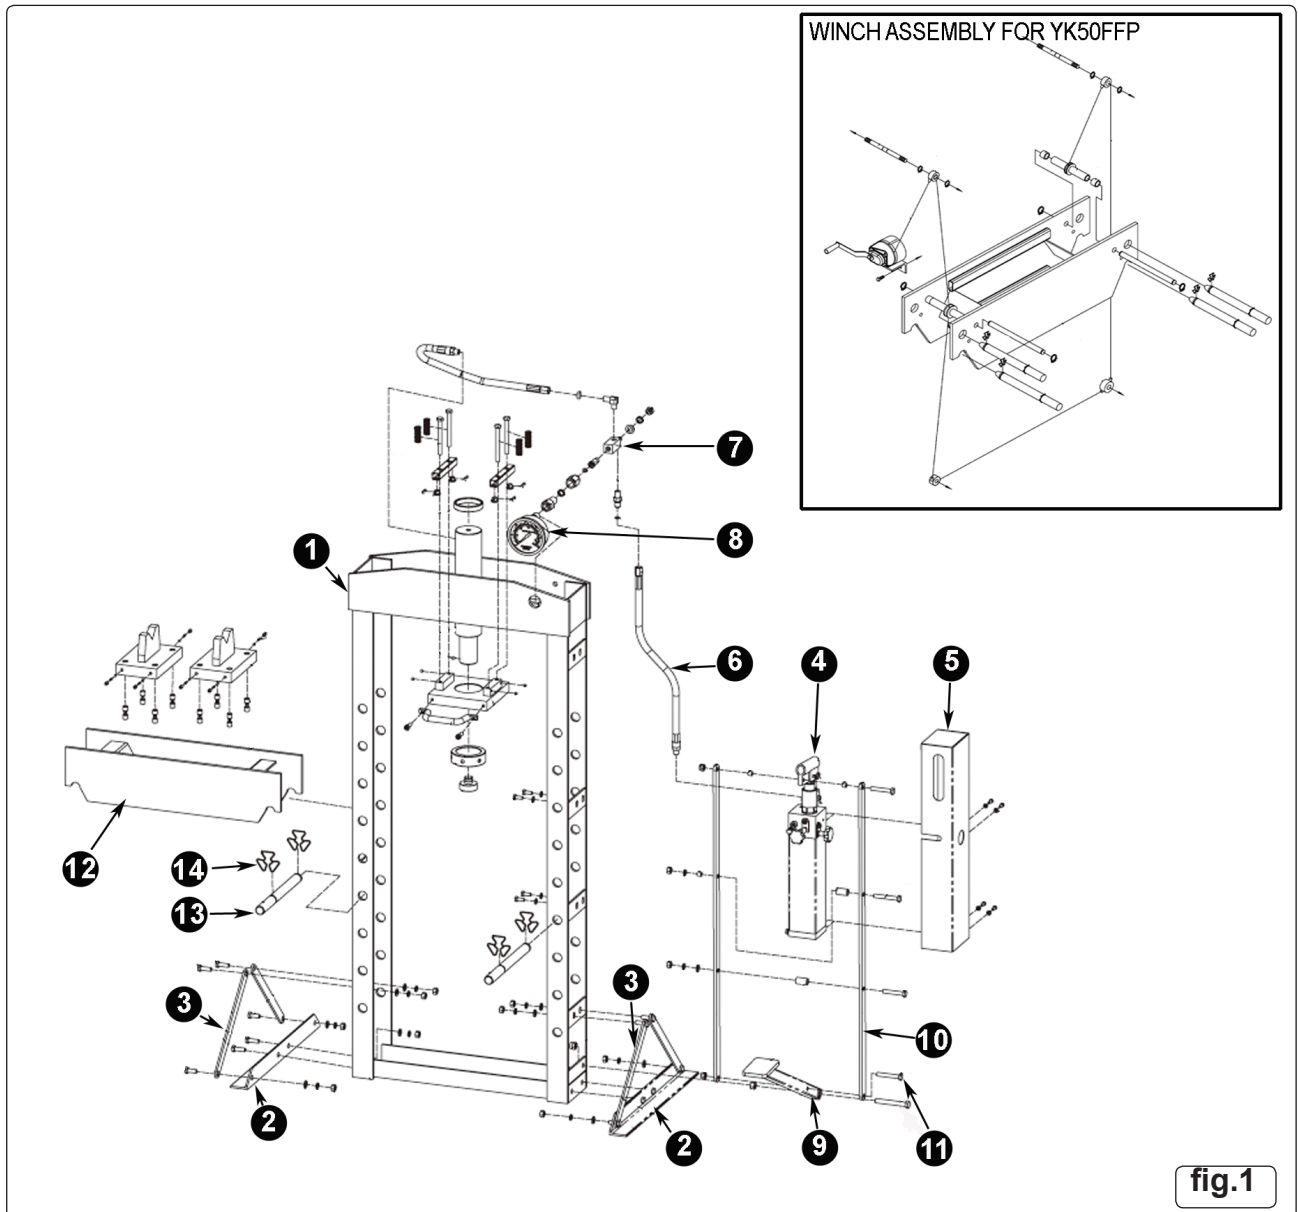

fig.1
3.1 PRESS ASSEMBLY (refer to fig.1 as a guide to assembly)
- 3.1.7 (**YK50FFP only**) Move the hand winch from the inside of the left hand post of the main frame (1) and attach to the outside of the left hand post of the main frame (1). Ensure that the cables are located correctly in the rollers before fully tightening (See inset fig.1). Fit the plastic return pipe from the hydraulic unit (fig.2) to the back of the hydraulic ram (fig.3).